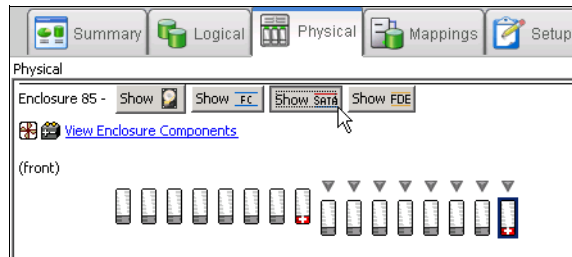

Figure 4-54 SATA drives protected with hot spare
3. Because in this example we have more than one type, we repeat the previous steps to create a second hot spare drive for the SATA disk drives, which are still unprotected. The operation finishes and the window shown in Figure 4-54, in the physical view, opens. Click the **Show SATA** button.